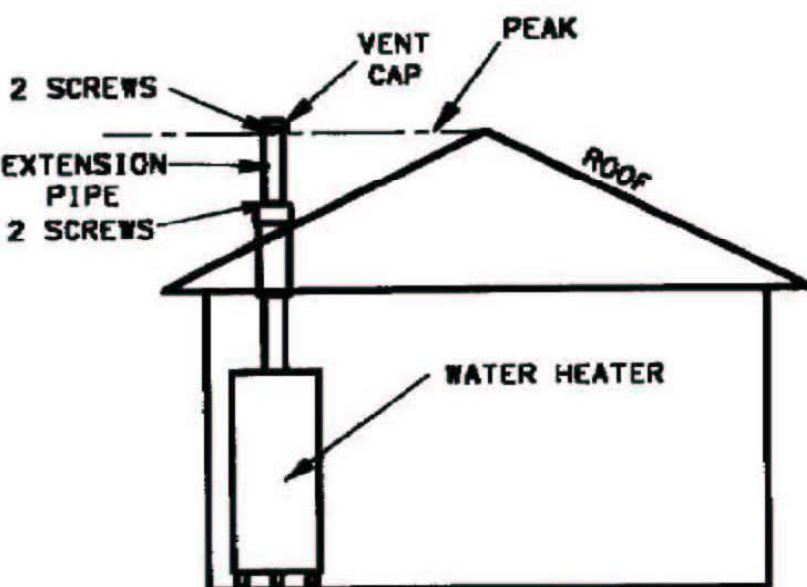

FIGURE 2
2. Install Extension Pipe as shown in figure 2. Rotate pipe 90° from existing holes and drill two 3/32 pilot holes. Secure extension pipe with two screws removed in step 1. "DO NOT" overtighten the screws.